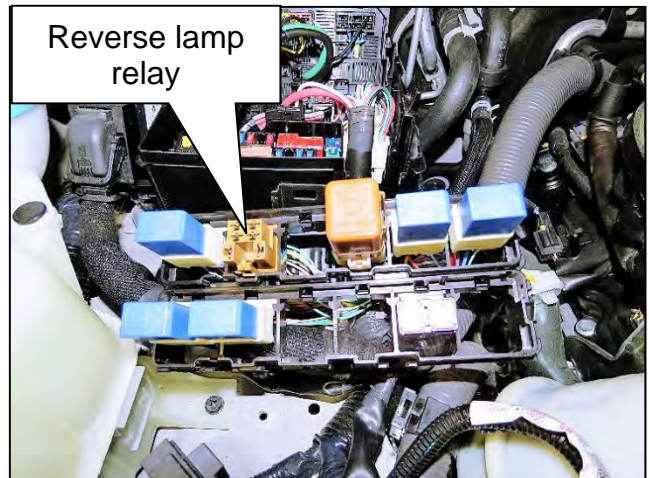

Figure 13
- Figure 13 shown with relay removed.